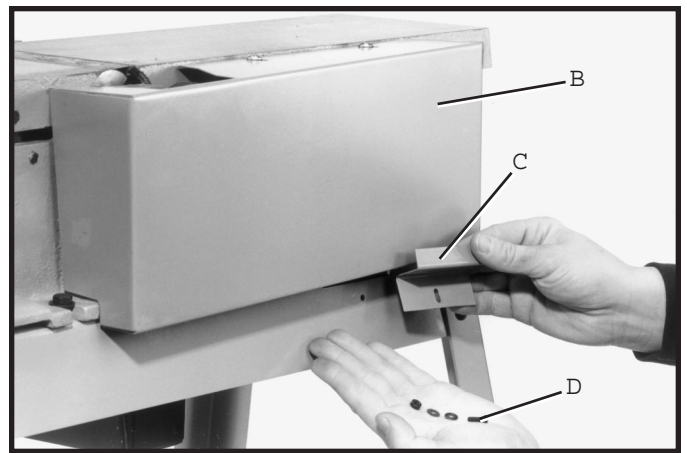

Fig. 12
1. Assemble motor pulley guard (C) Fig. 12, so it fits around the outside of the belt and pulley guard (B). Fasten the motor pulley guard (C) Fig. 12, to the side of the stand with #8-32 x 1/4 round head screw (D), two flat washers, and hex nut.